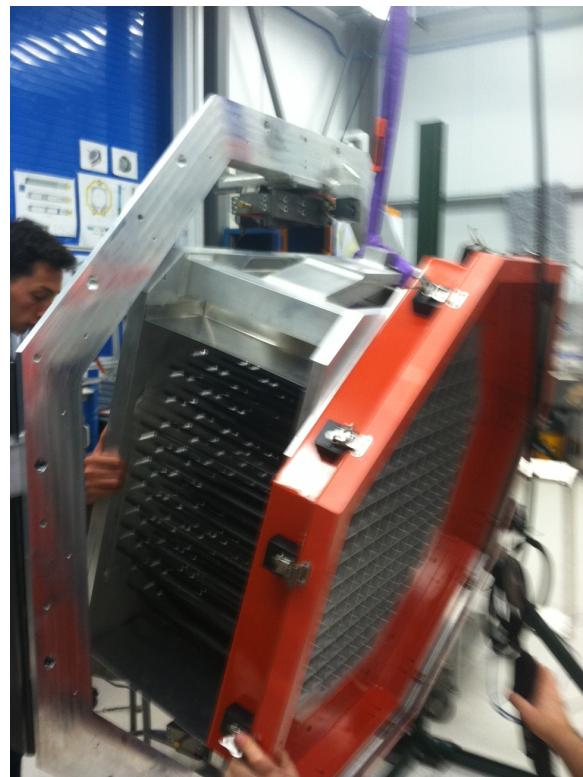

Figure 7
5. Pop top ball joint out. Now the top tilts forward. See Figure 7.